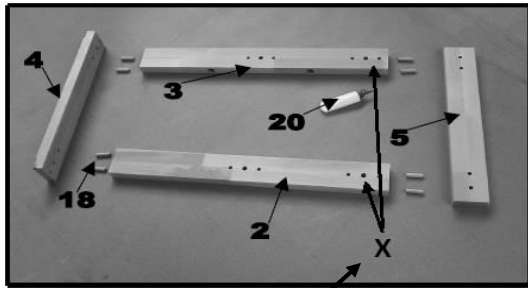

Fig. 1
1. Place base (5) Top Rail Support (4) Back Leg (3) and Front Leg with Bench dog holes (2) with dowel holes facing inward as shown (Fig.1). Attach the Base and Top Rail Support to the Front Leg with Bench Dog Holes (2) and Back Leg (3) using four Dowels (18) and Glue (20) for each. **Hint: Do not fill up holes by glue. Smear dowels by glue and insert them into the dowels holes.** Use the inner holes. The outer hole on each side of Top Rail Support (4) will later be used to attach the bench Top (1). Repeat this process for the other leg assembly.